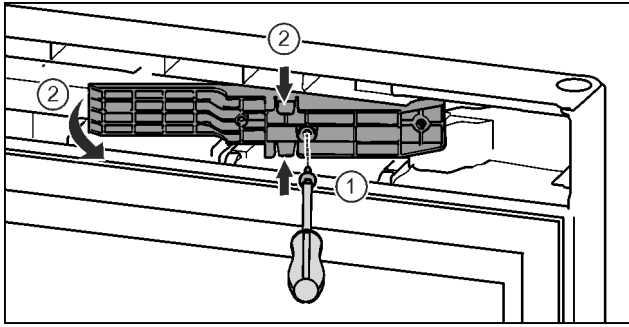

Fig. 16\*
- ▶ Loosen the screws with the T15 screwdriver.\* Fig. 16 (1)
- ▶ Pull out the adapter.\* Fig. 16 (2)